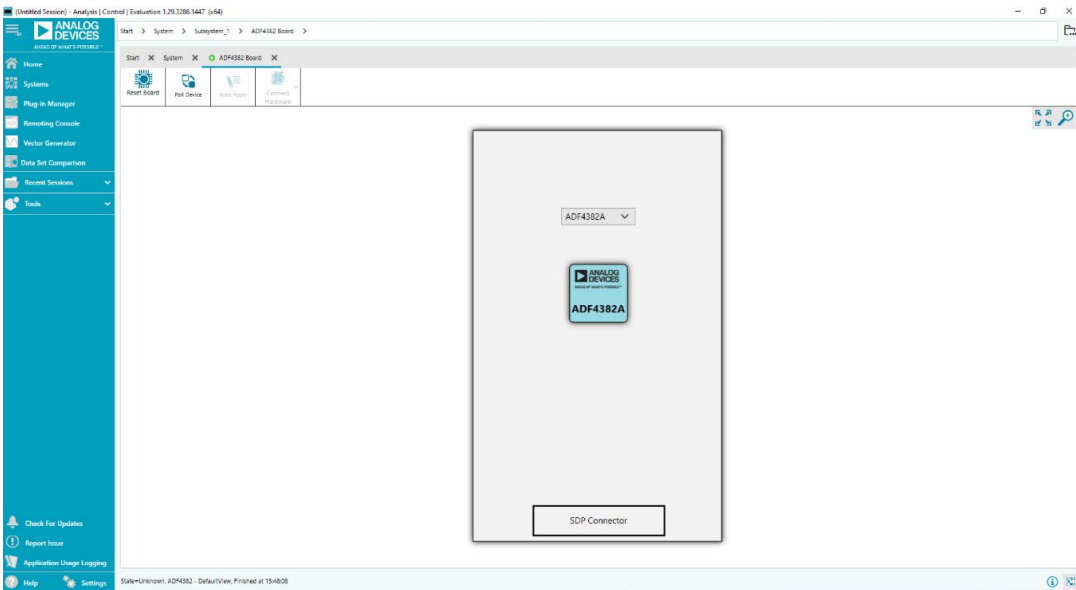

Figure 4. ACE ADF4382A Board Page, Device Selection
- 2. Double-click the **ADF4382 Board** icon, and the tab shown in **Figure 4** appears.